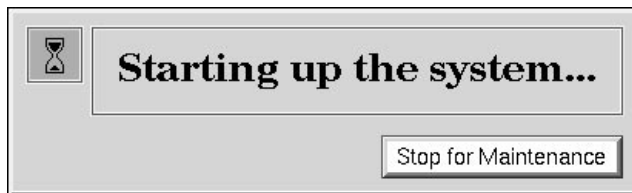

Figure 7-10 System Startup Notifier
2. When the system startup notifier appears, as shown in Figure 7-10, click *Stop for Maintenance* or press <ESC> to bring up the System Maintenance menu.